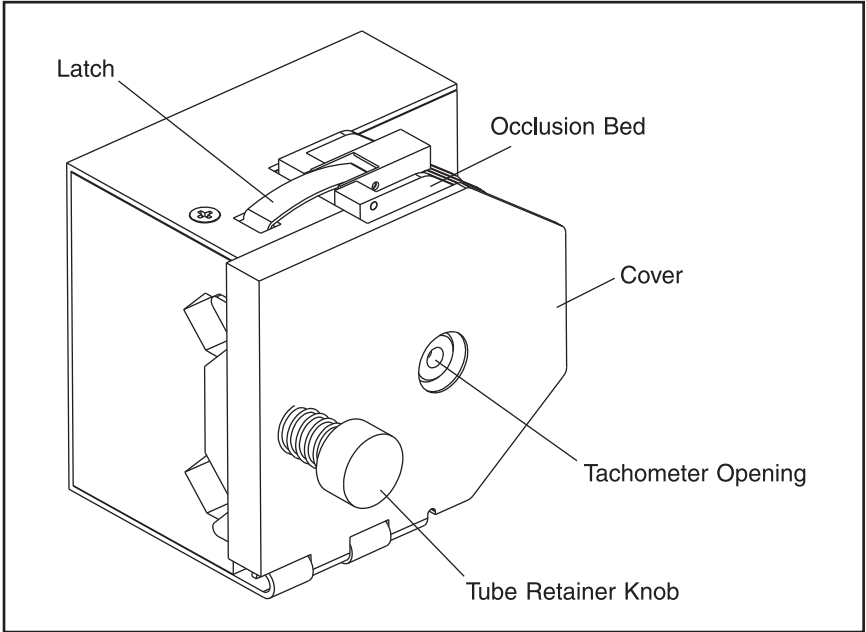

Figure 2. High-Performance Pump Head
1. Rotate tubing retainer knob, Figure 2, counterclockwise to release retainer, then pull to open cover.